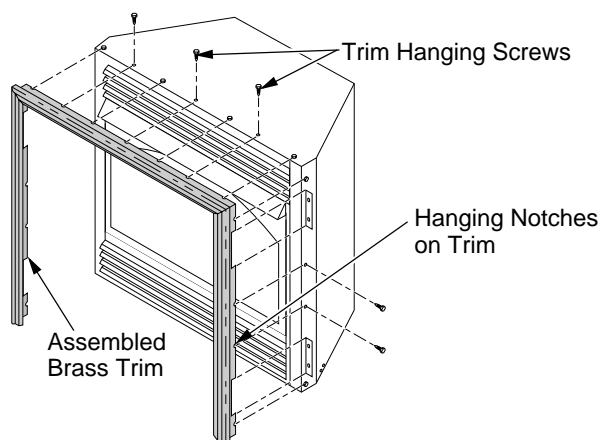

Figure 7 - Attaching Brass Trim to Fireplace
8. Tighten trim hanging screws (#10 x 6.25 shoulder) into holes in cabinets. Place the assembled trim onto fireplace cabinet. Align hanging notches on trim with hanging screws on side of fireplace (see Figure 7). Push trim firmly into place, sliding hanging notches over hanging screws.
10. Install brass trim after final finishing and/or painting of wall (see Figure 7, page 8).